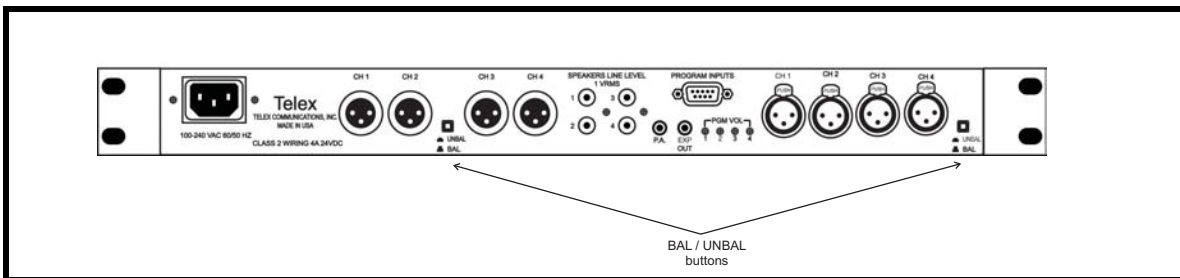

Figure 4. MS-4002 Back Panel Balanced and Unbalanced Operation Switches
**NOTE:** There are two switches on the MS-4002 unit that control the Balanced/Unbalanced operation. You must set both of these switches in the same position for proper operation, see Figure 4.